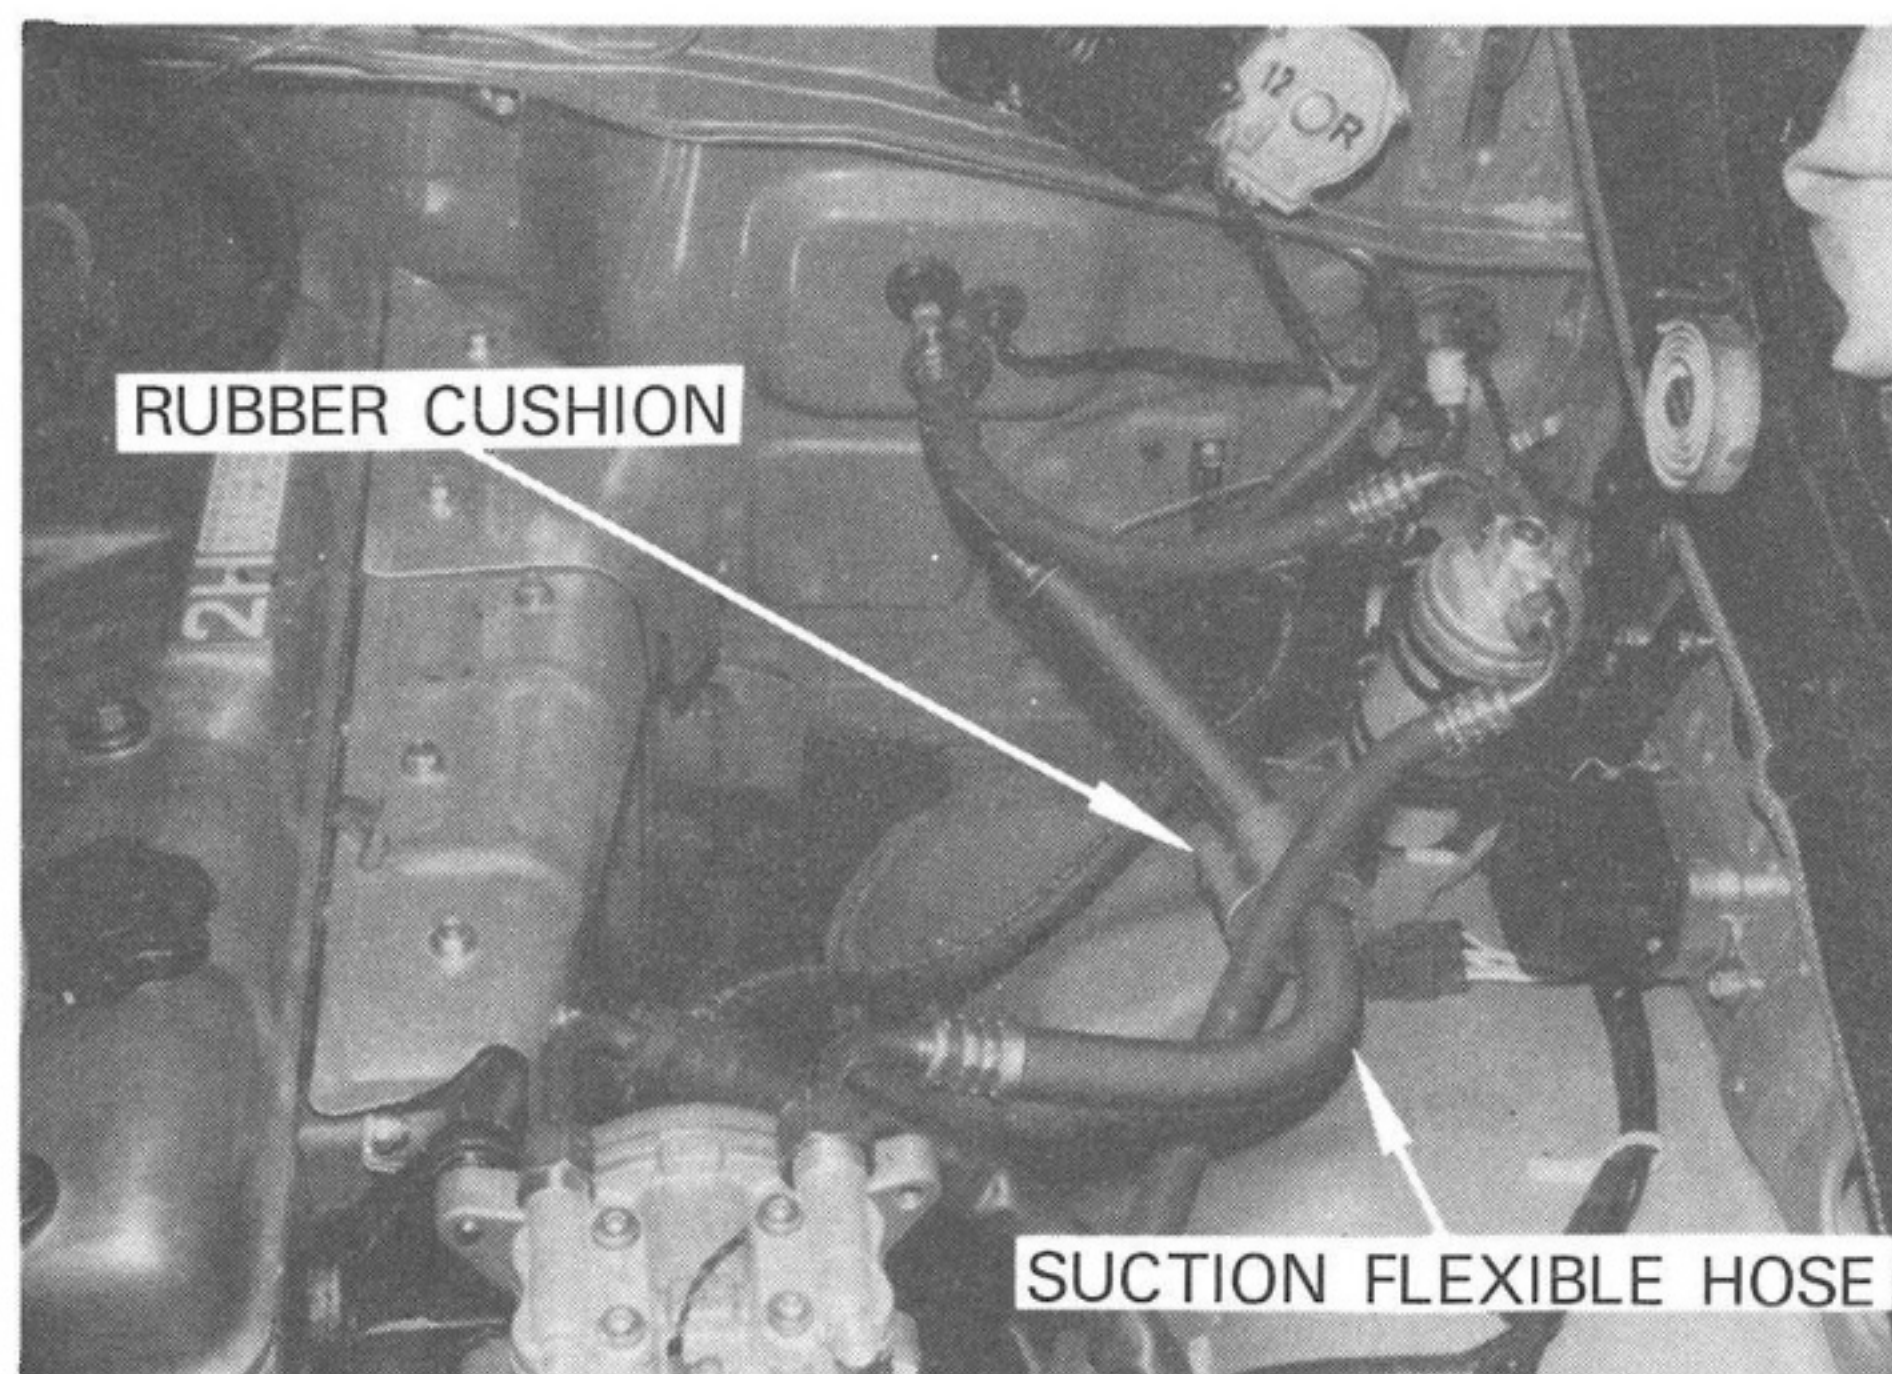
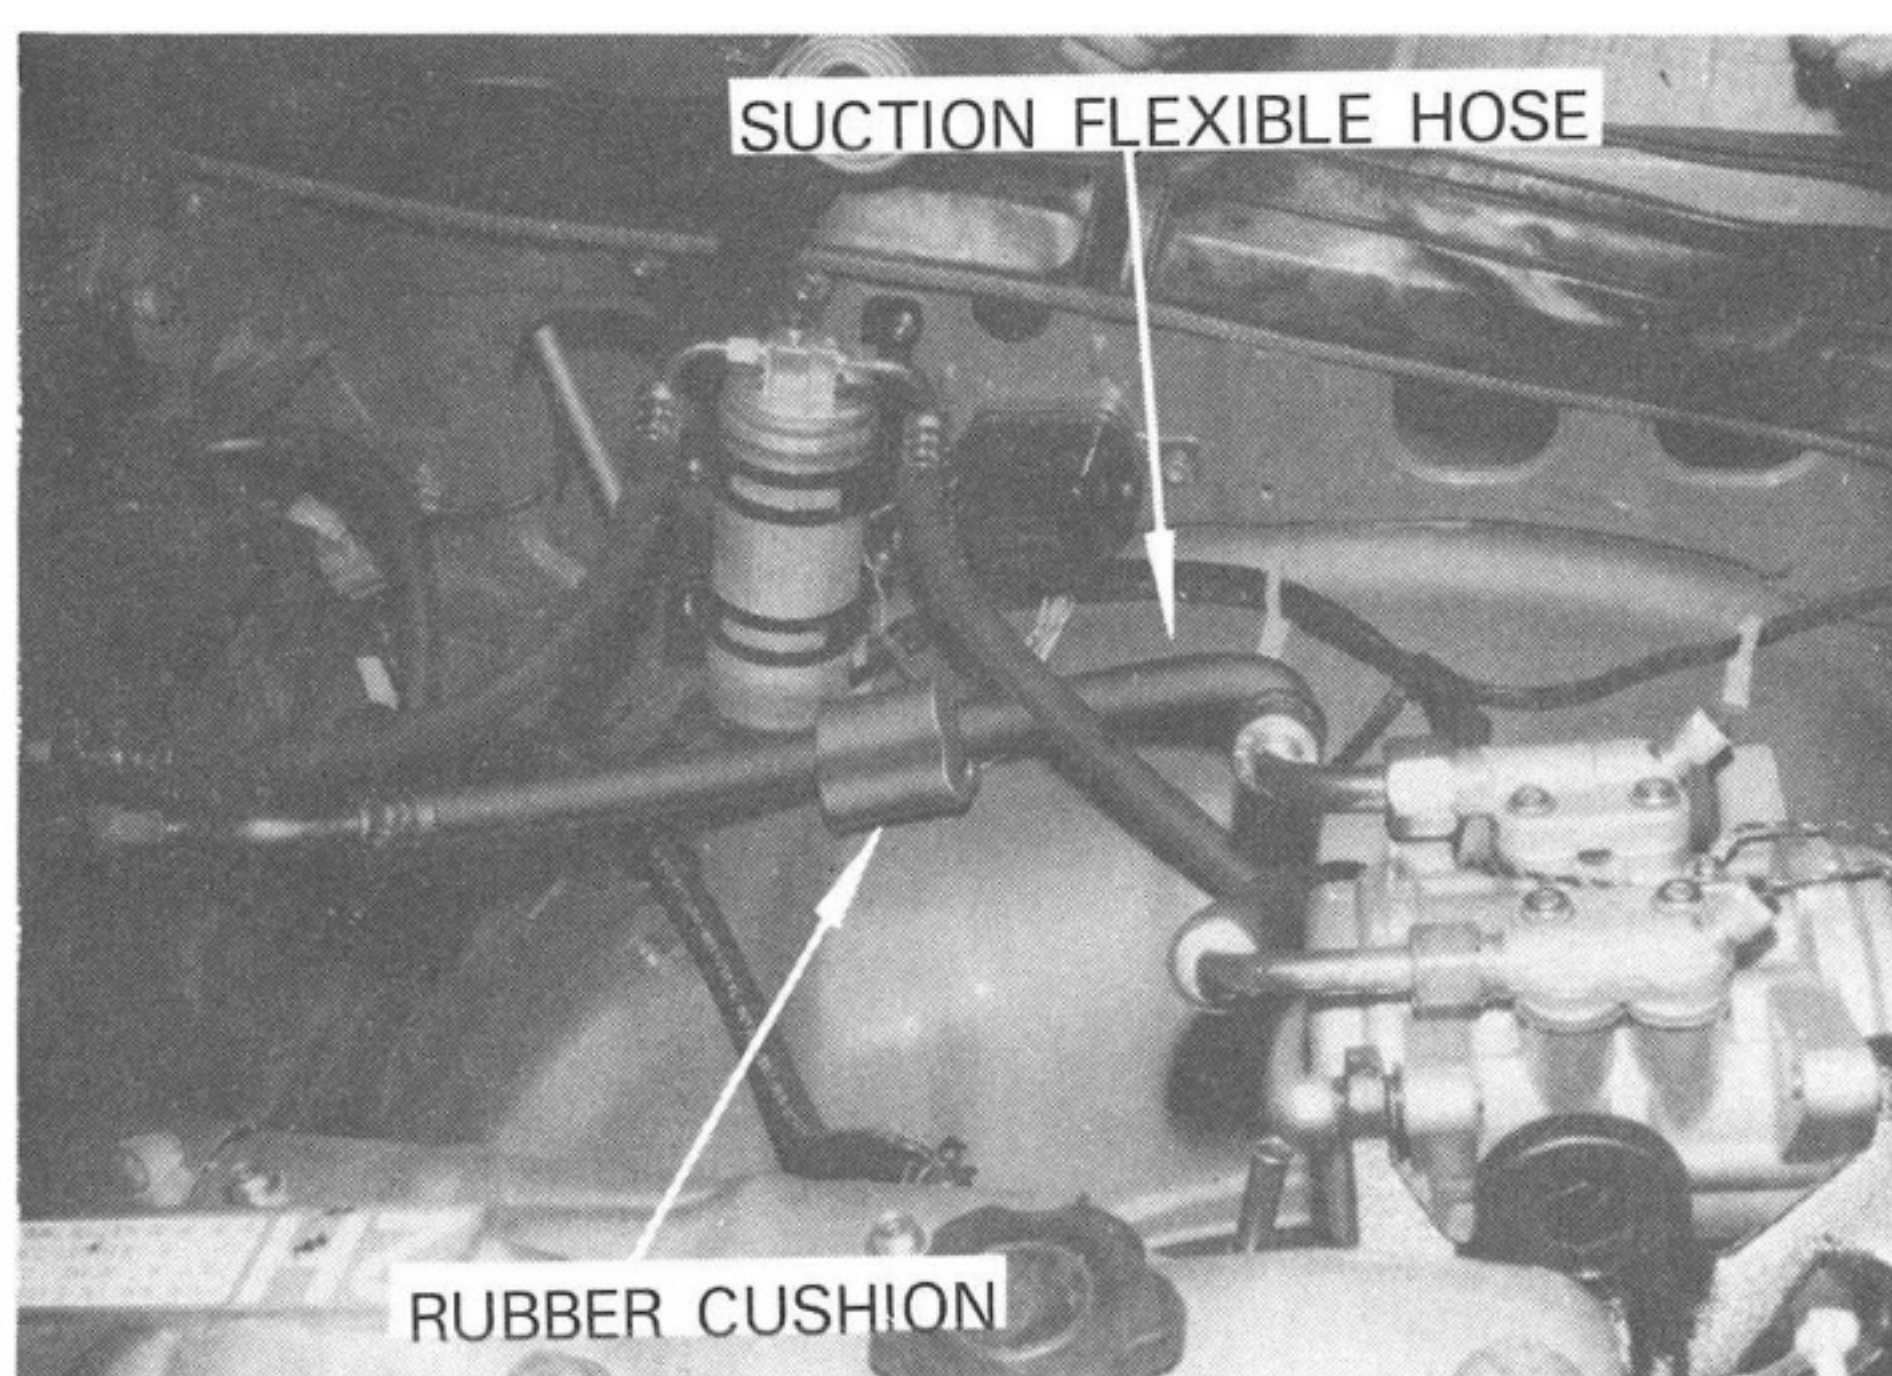

Fig. 3-7
Fig. 3-8
- B) Route the suction flexible hose as shown in Fig. 3-7 and Fig. 3-8.
- C) Connect the suction flexible hose to the cooling unit outlet and to the compressor suction valve. See Fig. 3-8.
- D) Position the rubber bushing where the hose interferes with body as shown in Fig. 3-8.